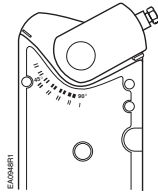

Figure 9.
- a. Insert the shaft adapter to the right as close as possible to the raised stop. See Figure 9.